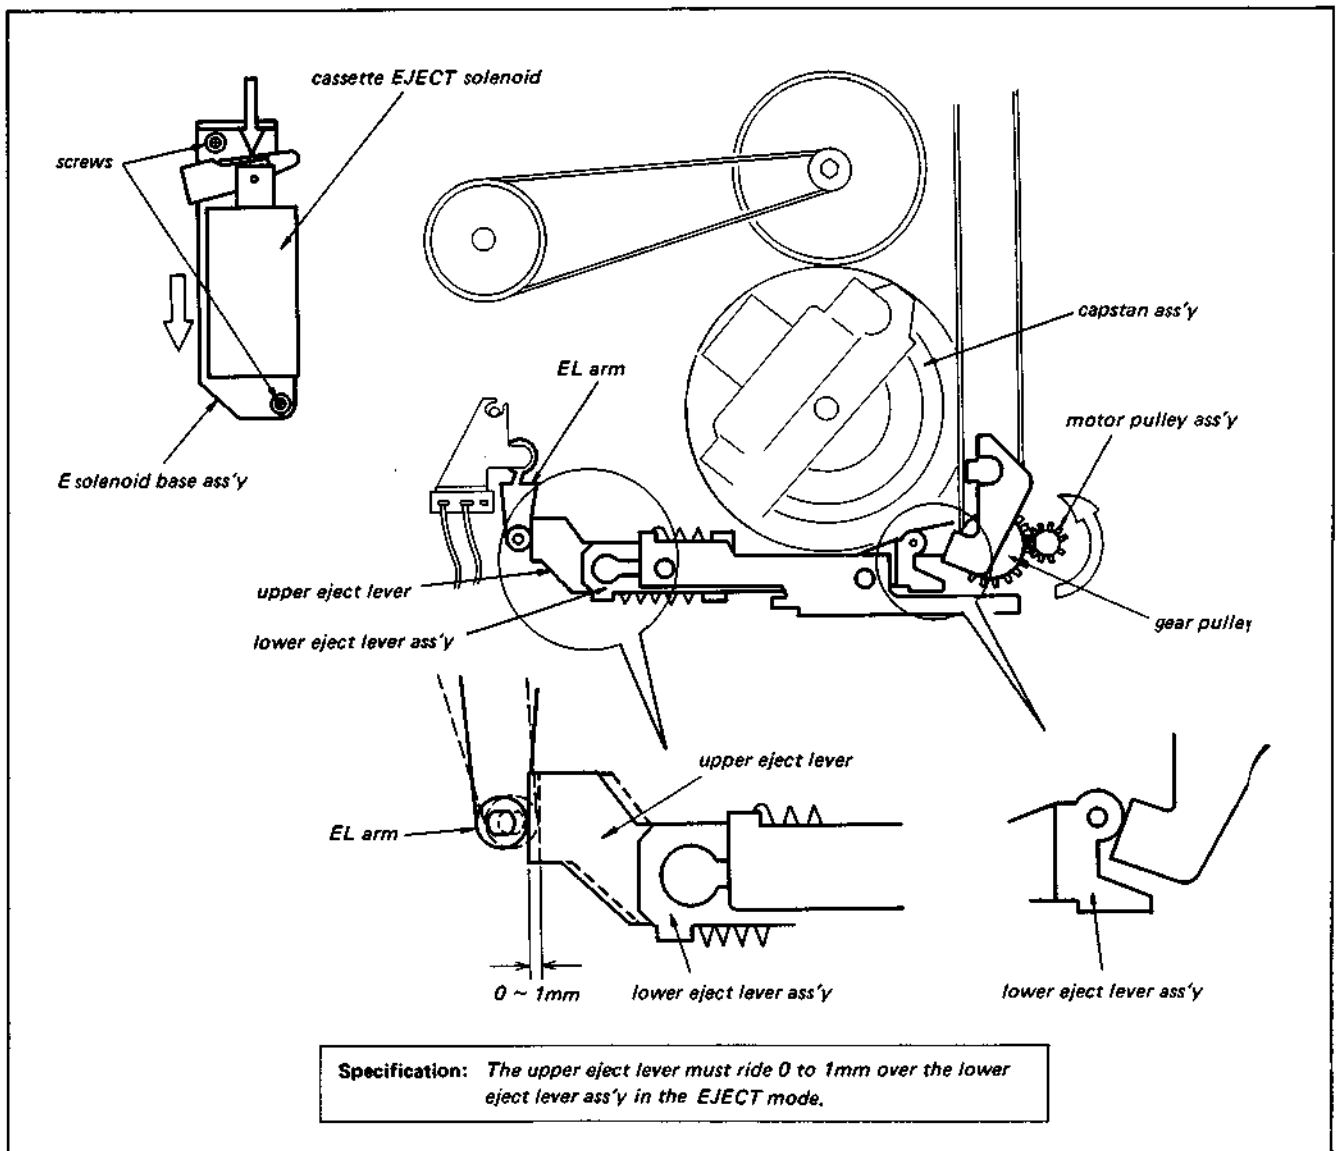

Fig. 3-19. Position adjustment of EJECT solenoid
4. Check that the specification shown in Fig. 3-19 is satisfied. If it is not, perform Steps 5, 6, and 7.
6. Loosen the two screws shown in Fig. 3-19. Move the E solenoid base assembly to the position where the specification shown in Fig. 3-19 is satisfied, while turning the motor pulley assembly counterclockwise and setting the solenoid to the energized state.